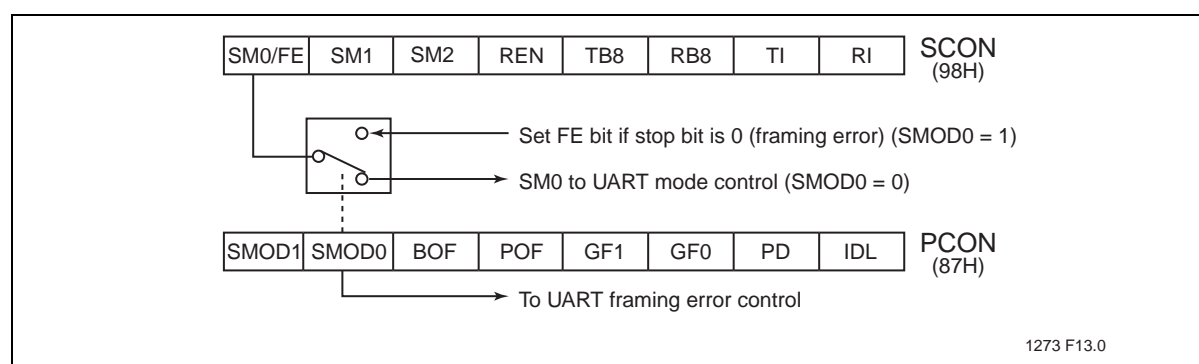

Figure 17:Framing Error Block Diagram
Framing Error Detection is selected by going to the PCON register and changing SMOD0 = 1 (see Figure 17). If a stop bit is missing, the Framing Error bit (FE) will be set. Software may examine the FE bit after each reception to check for data errors. After the FE bit has been set, it can only be cleared by software. Valid stop bits do not clear FE. When FE is enabled, RI rises on the stop bit, instead of the last data bit (see Figure 18 and Figure 19).